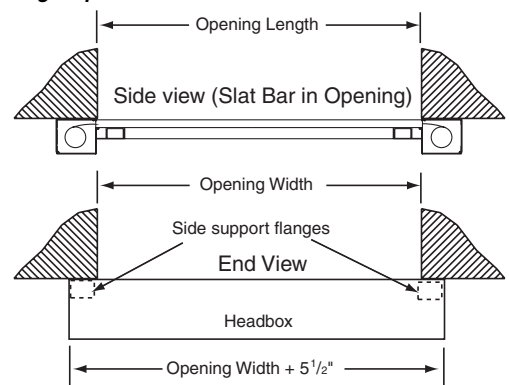

Figure 5
- ③ For Outside Mount—Measure opening and unit and compare the two (see Fig. 5). The Skylight FlexShade should be about 5 1/2" larger than the opening to be covered; the length should be about 8" longer than opening (11"-12" longer if slat bar and headboxes are all to be outside opening).